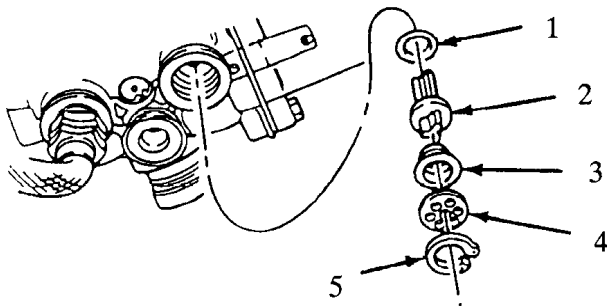

Figure 75 Outlet Check Valve
2. Outlet Check Valve (Figure 75).